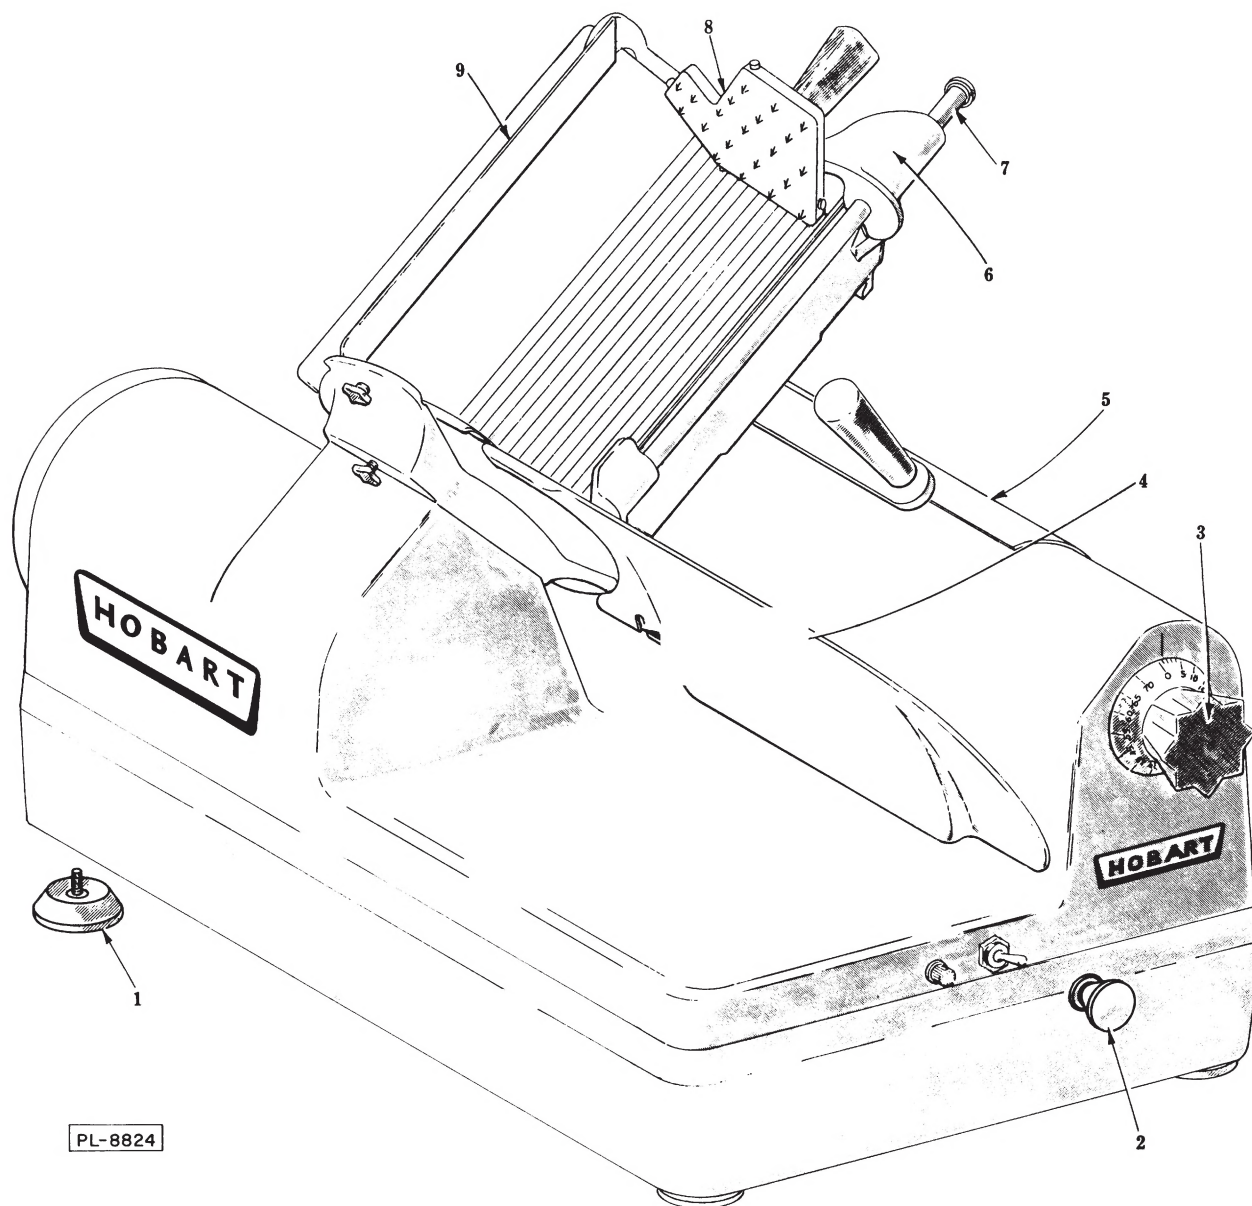

Fig. 1
When the machine is packed for shipment, the four rubber feet (1, Fig. 1) are taken off to permit bolting the base to the shipping skid. The feet are shipped in a cloth bag and can be quickly installed. It is not necessary to fasten the slicer down in ordinary service, as the cup-shaped rubber feet will keep it from slipping on the table.
Before making electrical connections, CHECK THE SPECIFICATIONS ON THE NAME PLATE (5, Fig. 1), TO MAKE SURE THEY AGREE WITH THOSE OF YOUR ELECTRICAL SERVICE.
The knob or dial (3, Fig. 1) adjusts the thickness of the slices cut. The numbers on the dial do not indicate actual measurements, but are helpful in duplicating past performances. To obtain the maximum slice thickness, it is necessary to turn the knob beyond one complete revolution.
The carriage speed shift may be changed with machine running or not running and also with the carriage engaged or not engaged. Speeds are easily changed (when the carriage is moving or stopped) if there is no load on the diving key. The "no-load" condition on the diving key occurs at each end of the carriage stroke while machine is running or can be produced when the machine is stopped by moving the carriage slightly back and forth by hand. To shift from low speed to high speed, pull the knob (2, Fig. 1) of the shifter rod outward and upward. In order to shift from high speed to low speed push the shifter rod knob (2, Fig. 1) down, a spring then automatically returns the shifter to its low speed position.
The use of the fence (9, Fig. 1) can greatly improve the automatic operation of the slicer. It should be adjusted so that it comes close to the material being sliced without touching it. When thus adjusted, it keeps the material in proper position in the carriage tray on the return stroke, thereby insuring a straight, uniform cut, even at high speeds. One or more fences can be used to provide chutes for slicing a multiple number of smaller objects (for example, the cutting of onion rings).
The hub of the meat grip arm (6, Fig. 1) has a shape which prevents swinging the grip (8, Fig. 1) out of the carriage tray to a position where it could mar the finish of machine. Do not try to force this arm. The grip moves freely at the proper positions, and it must be at the top of the slide rod (7, Fig. 1) to swing clear of the tray. When the grip is not needed, move it out of the way by the following procedure:
5.2.1 Lift the grip to the top of the slide rod (7, Fig. 1).
7.4 Unscrew the thumb screw on the sharpener until the sharpener slips upward into the slot (4, Fig. 1) at the bottom of the gauge plate. Push the sharpener firmly upward with
Keep the meat grip slide rod (7, Fig. 1) clean but do NOT lubricate it.